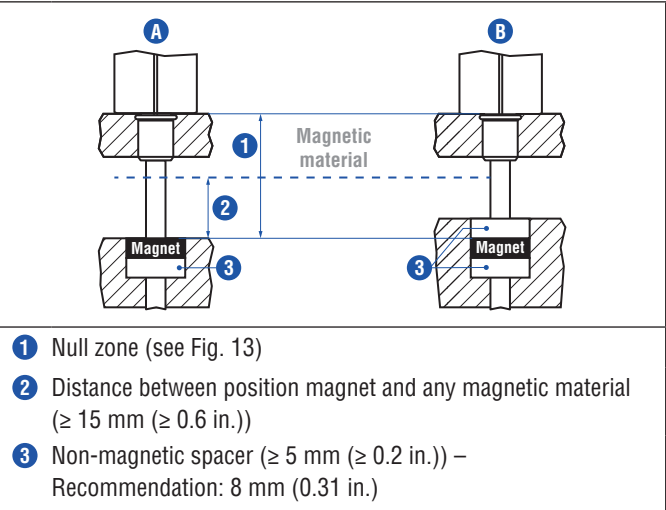

Fig. 11: Installation with magnetic material
- Minimum distance between position magnet and any magnetic material has to be 15 mm (0.6 in.) (Fig. 11).
- If no other option exists and magnetic material is used, observe the specified dimensions (Fig. 11).
When using magnetic material the dimensions of Fig. 11 must be observed.